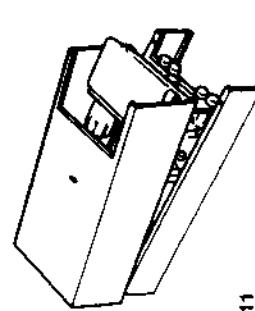

Fig. 11
- 5.3.2 Slightly lift the casing and slide it gently towards the top of the appliance to disengage the case from the top suspension hooks. (Fig 11)